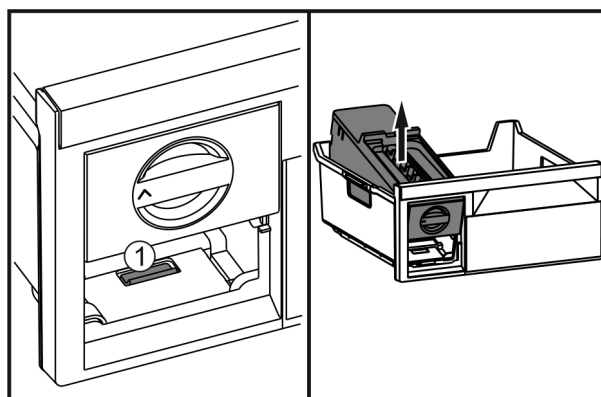

Fig. 39
- Press the lug Fig. 39 (1), lift up the EasyTwist-Ice at the rear and take it out of the freezer drawer.